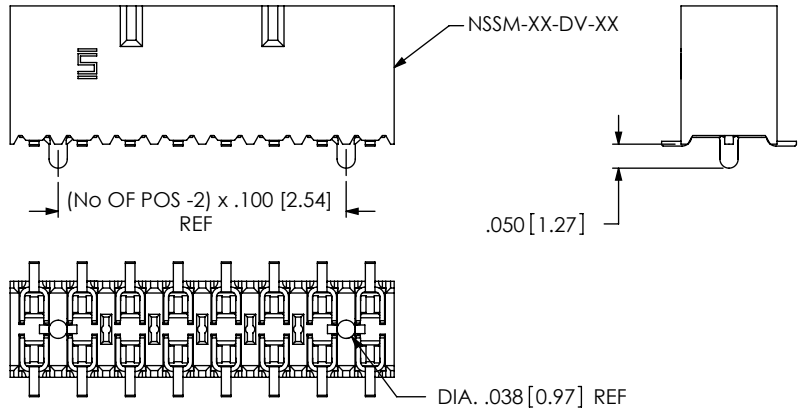

FIGURE 8
-TR: TAPE & REEL (SEE FIG 8, SHT 2-